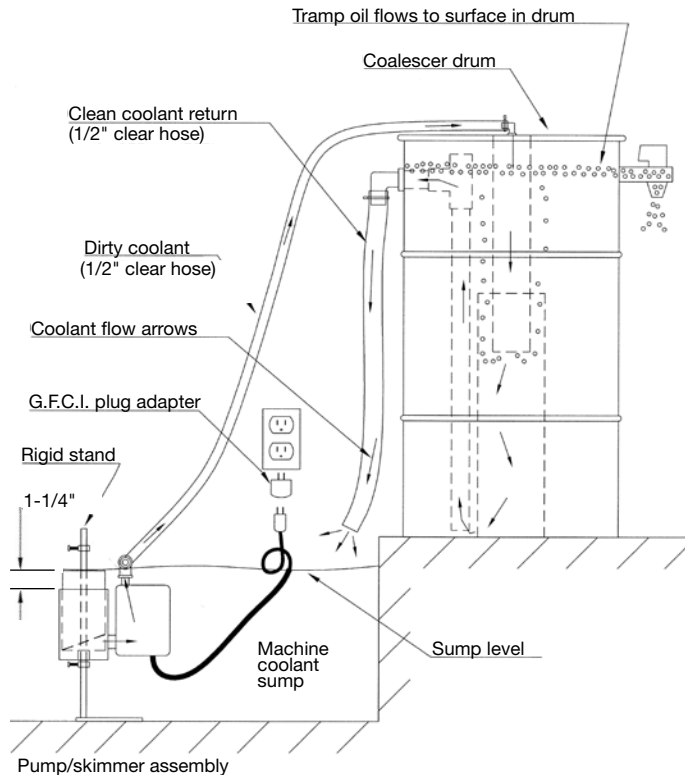

FIGURE 2
4. Elevate the coalescer drum to a point above the machine tool sump so that clean coolant can gravity flow out of the drum through the 1" clear hose and back into the sump. (No more than 2' above the skimmer assembly.) (See **Figure 2** for further clarification.)
Before placing pump/skimmer assembly into the sump, adjust the skimmer height so that the skimmer base is approximately 1-1/4" below the coolant level in the sump. (See **Figure 2** for clarification.)